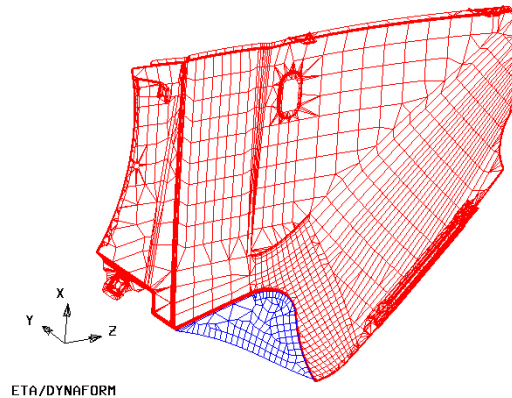

Fig. 6.1.37 An illustration of Outer Smooth/Roller using Local option
2. Once the middle mouse button is clicked, a smoother, virtual boundary will be highlighted over the original boundary. If the result is acceptable, click on the FILL BOUNDARY button to fill the gap. eta/DYNAFORM will create a new part with the given name to include the filled mesh and surfaces. In addition, this part will be automatically assigned as DIE. Fig. 6.1.37 illustrates the result of a typical roller operation using the LOCAL option.